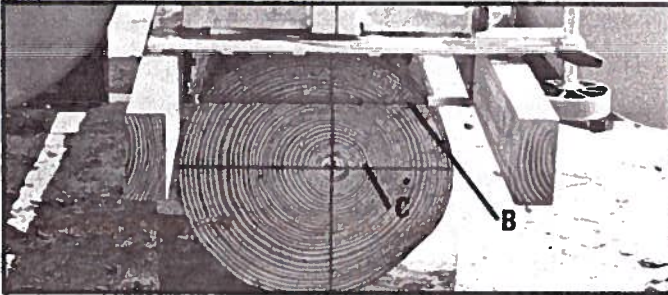

Fig. 47
4. Notice that when the first cut is completed as shown in Fig. 47, the first cut (B) is parallel to centerline (C).